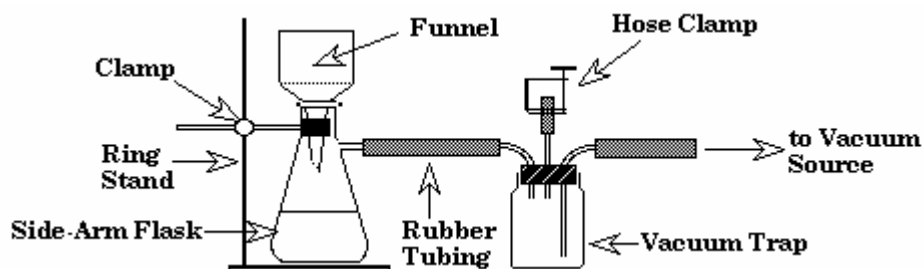

Figure 1: Suction trap
4. Prepare a suction trap (**Figure 1**) from the vacuum flask, which will be used later to filter the soap preparation. Bend a long piece of glass tubing into a right angle (instructor will demonstrate), and push one leg of the bend through a one-hole rubber stopper fitted for the mouth of the flask. When inserted, the glass tube should extend to about  $\frac{1}{2}$  inch from the bottom of the flask. The exposed leg of the bend should be cut off at about 3 inches from the bend, and, by means of a piece of rubber connector tubing, be attached to a 12-inch length of glass tubing. The side-arm of the vacuum